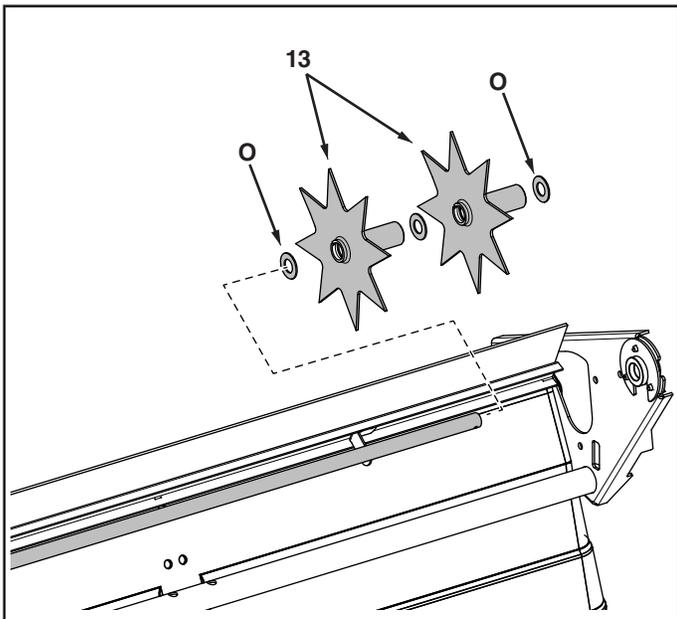

FIGURE 6
- Assemble three 5/8" washers (O) and the two drive disks (13) onto the axle. See figure 6.